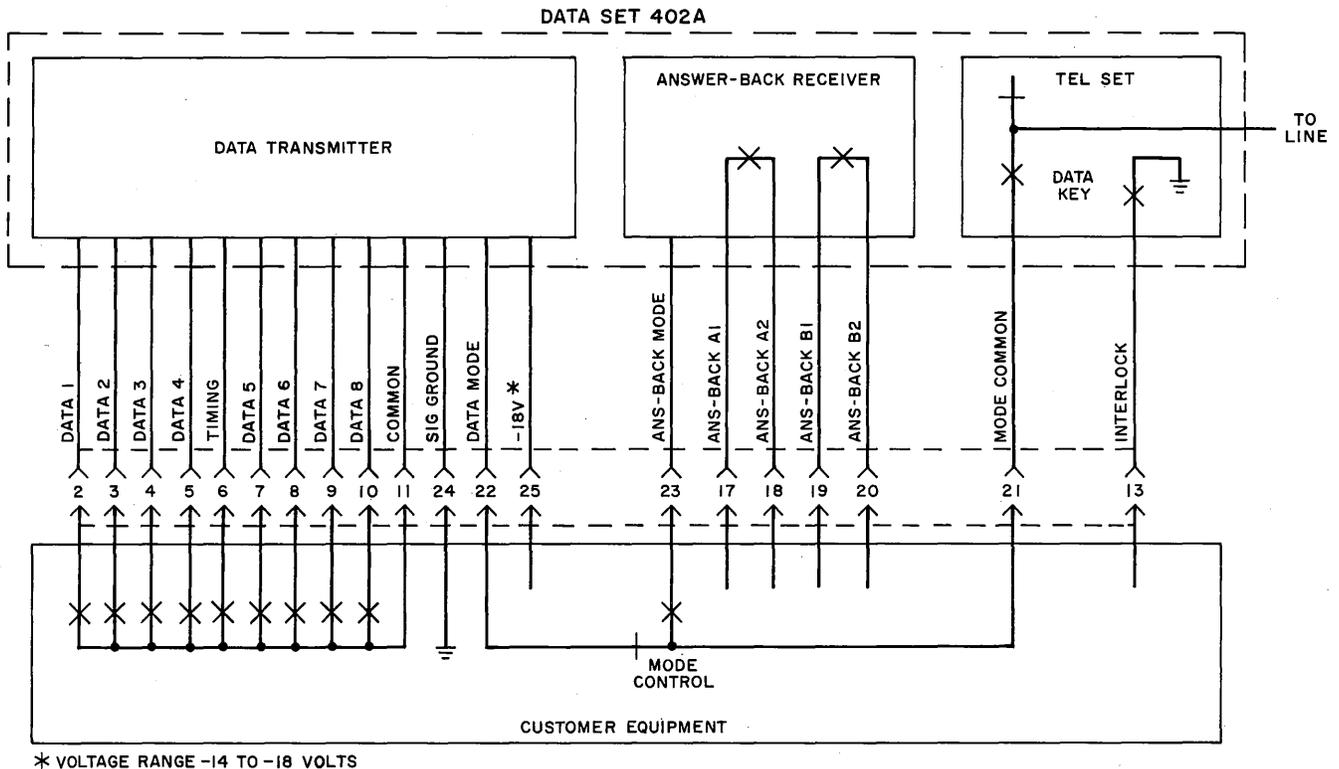

Fig. 2 — Data Set 402A, Block Diagram
4.06 Fig. 2 is a block diagram of the data set 402A.